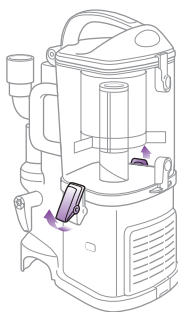

Fig. 17
- Undo the latches on the sides of the dust cup by lifting them up and outwards to remove the dust cup from the motor base. (Fig. 17)